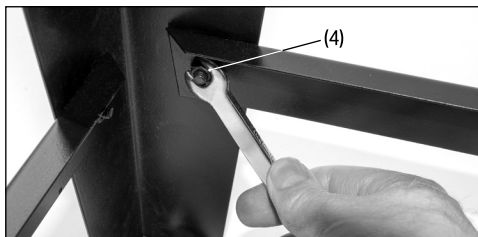

Fig. 2
2. Assemble the support brackets (2) and (3) to the legs (1) with fixings (4) – see Fig.2.